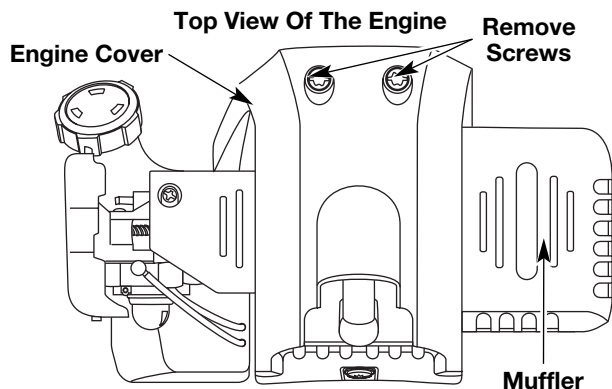

Fig. 35
2. Remove the two (2) screws on top of the engine cover with a Flat-head or T-25 Torx screwdriver (Fig. 35).